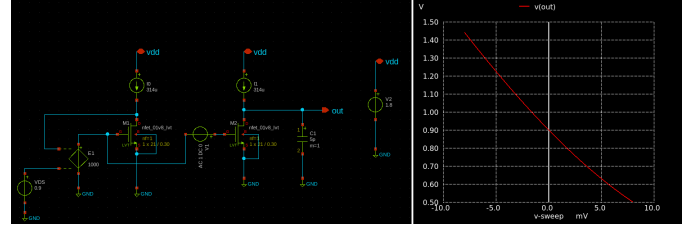

Fig. 8.  $a_o$  vs  $V_{GS}$
3) *Input vs output:* Shown in Fig. 8 is a sweep of  $V_1$  from  $-8mV$  to  $8mV$ .